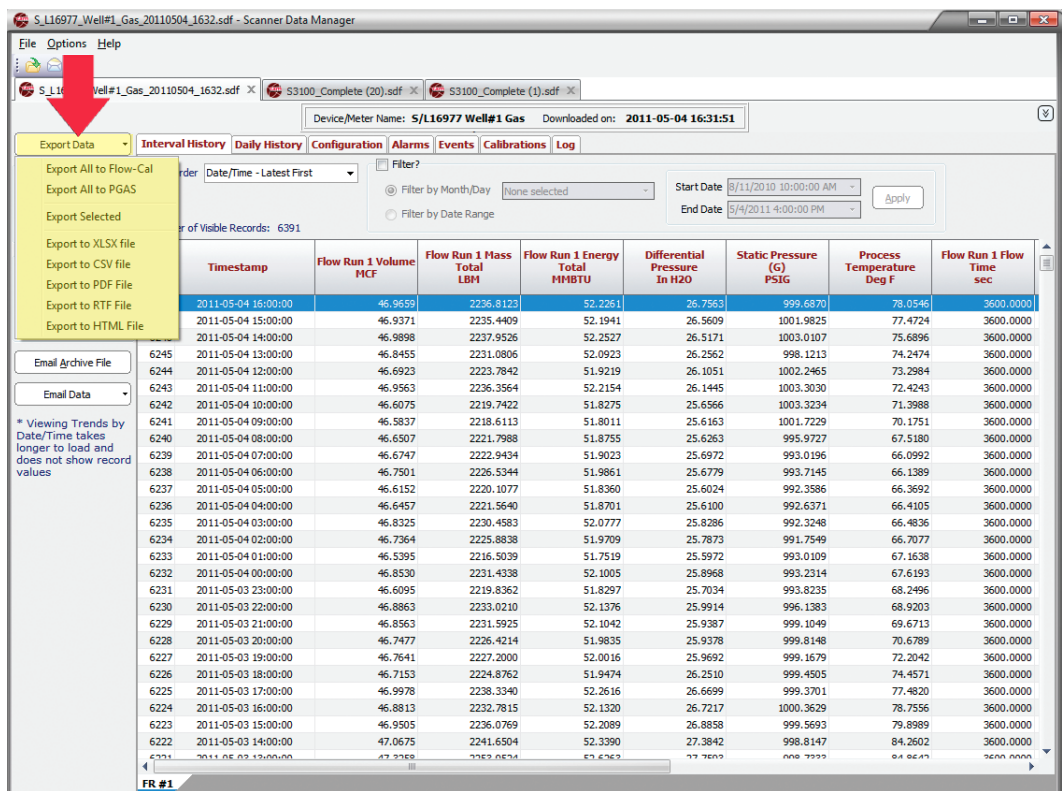

Figure 5.9—Export Data button and dropdown menu
2. Click on the **Export Data** button in the left column of the main screen and choose the desired **Export All to...** selection from the dropdown menu (Figure 5.9, page 68).